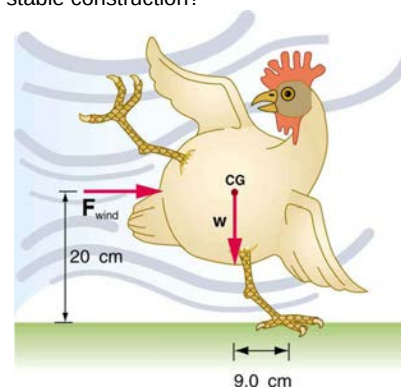

Figure 9.34
- (a) What force must be exerted by the wind to support a 2.50-kg chicken in the position shown in **Figure 9.34**? (b) What is the ratio of this force to the chicken's weight? (c) Does this support the contention that the chicken has a relatively stable construction?